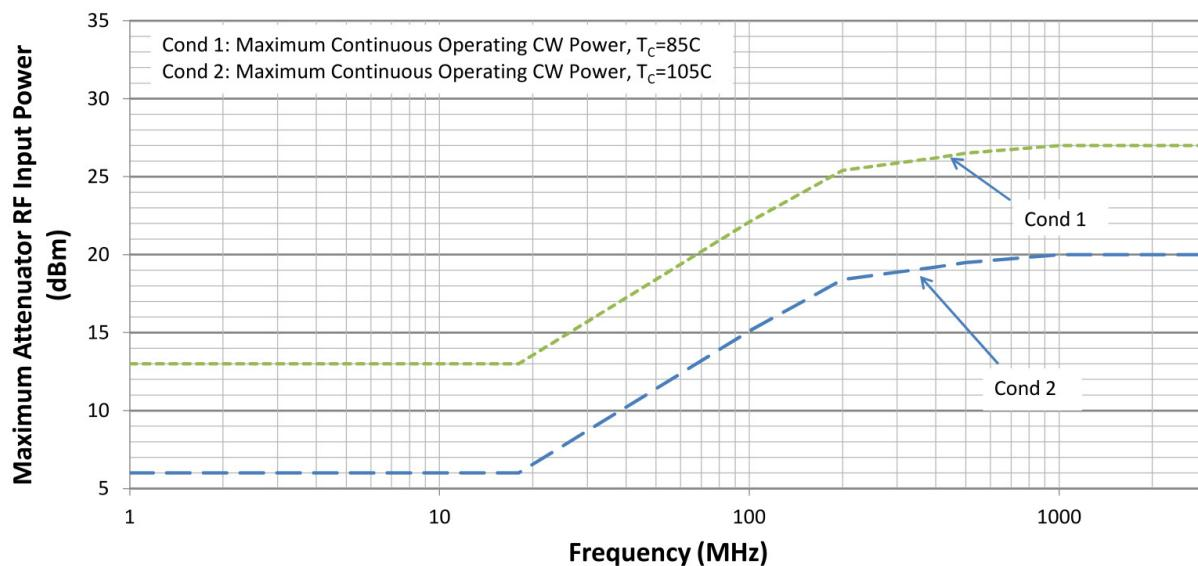

FIGURE 1: MAXIMUM OPERATING RF INPUT POWERS VS. RF FREQUENCY
3 – Refer to the Maximum **Operating** RF Input Power vs. RF Frequency curves in Figure 1.
- 3 – The input 1dB compression point is a linearity figure of merit. Refer to Absolute Maximum Ratings section along with Figure 1 for the maximum RF input power vs. RF frequency.